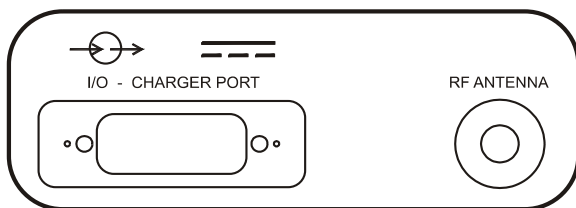

Figure 2-1. The Power Adapter and RF Antenna Connectors
- a. Connect the AC Power Adapter to the I/O Port connector on the monitor back panel (See **Figure 2-1**).